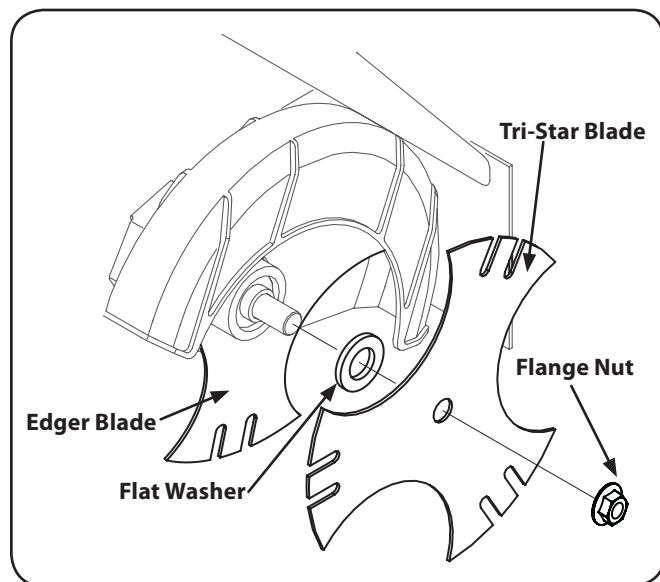

Figure 5-4
1. Use two wrenches (one wrench to prevent hex bolt head from spinning and the other to unthread the flange nut) to remove flange nut that secures edger blade, leaving the edger blade in place. See Fig. 5-4.
2. Install the additional edger blade supplied with your machine and the flat washer. See Fig. 5-4.